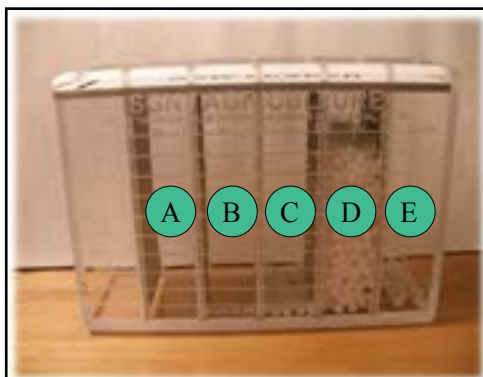

Figure 6
6. Figure 6 - View level of material in each compartment and determine SGN level based on markings.